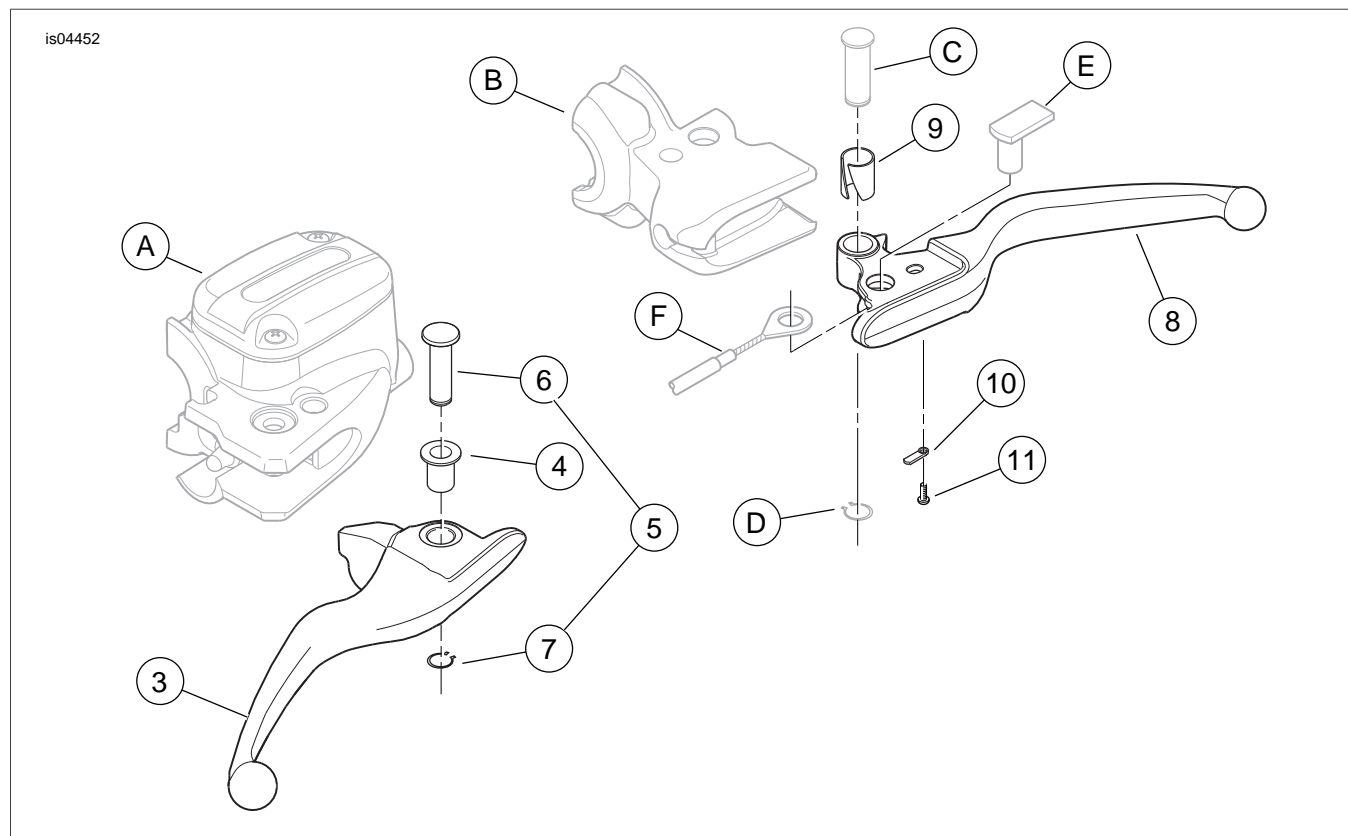

Figure 3. Service Parts: Hand Control Lever Kits
See Figure 3 and Table 1.
- See Figure 3 and the FRONT BRAKE MASTER CYLINDER section of the Service Manual. Remove the retaining ring (7) from the groove in the pivot pin (6).
- Remove the pivot pin from the brake lever and master cylinder housing (A). Discard the original equipment (O.E.) brake lever (3), pivot bushing (4), pivot pin (6) and snap ring (7).